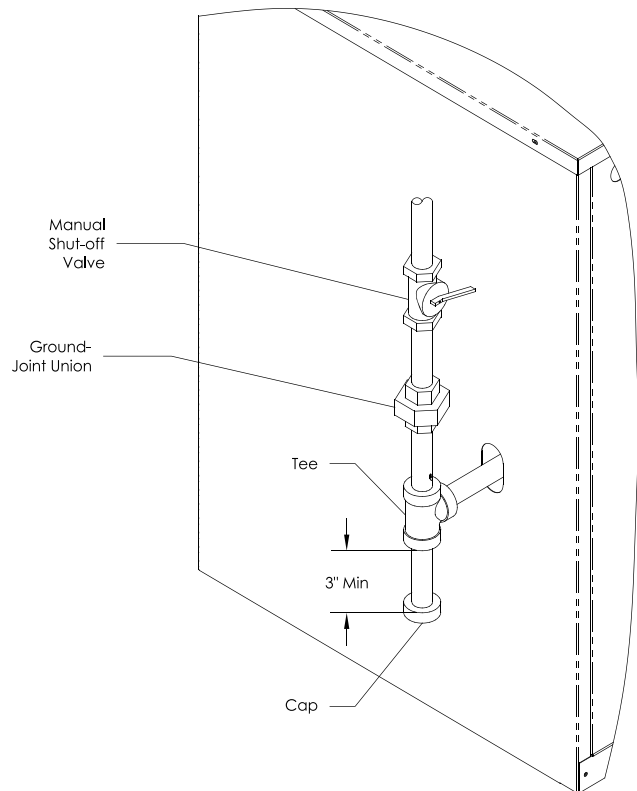

Figure 8-2: Pilot and Gas Piping
- Install sediment trap, ground-joint union and manual shut-off valve upstream of boiler gas control valve. See Figure 8-2 (within 6 ft. of boiler).